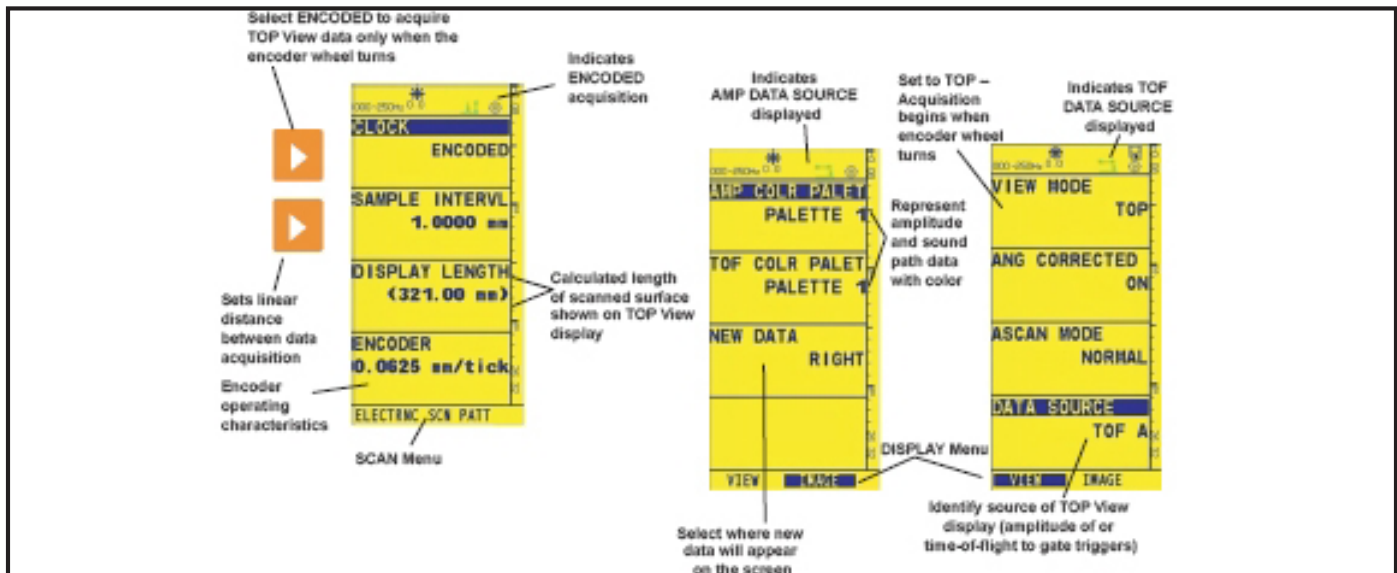
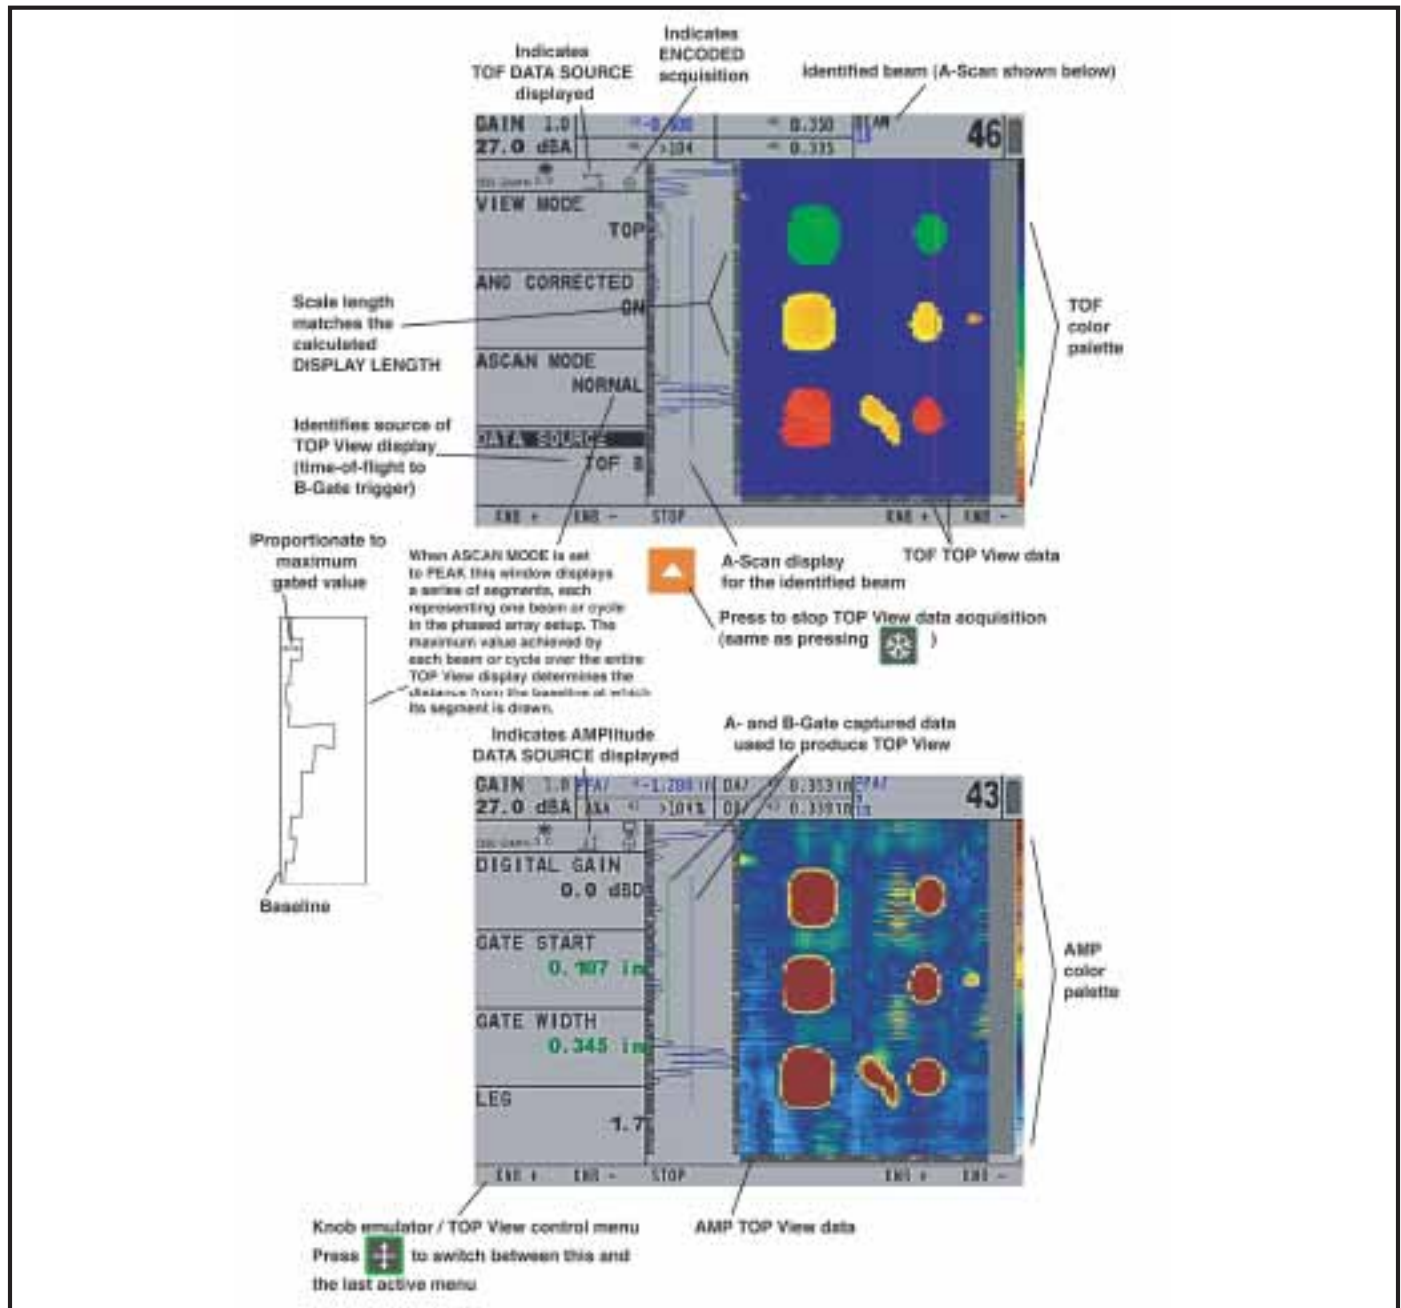

Figure 66: Make these settings for TOP View operation with an encoder. Most TOP View specific settings are accessed from the CLOCK, VIEW, and IMAGE Submenus.
Figure 68: TOP View data, acquired in ENCODED mode, can be viewed as an amplitude or sound-path-distance to trigger (TOF) in A- or B-Gate.
Refer to Figure 66 on page 150 and follow these steps to configure the instrument for TOP View operation in ENCODED mode. The resulting TOP View operation is shown in Figure 68 on page 153.
Whether in TIMED or ENCODED operating mode, the TOP View feature allows the user to acquire data over a period of time while scanning an area of interest. One of four data-viewing options (identified as DATA SOURCES in the VIEW Menu) is displayed as it is acquired. The remaining DATA SOURCES are automatically added to the instrument's data buffer from which they can be retrieved and viewed at any time (during TIMED mode) or when the instrument is STOPped (Section 7.3) in ENCODED mode. While acquiring TOP View data, the KNOB EMULATOR / TOP View Control Menu (identified in Figure 68 on page 153) includes controls that affect the scanning process; however, only the STOP operation is enabled while acquiring data in ENCODED mode.
After the instrument is configured as described in Section 7.1.1 and Section 7.1.3, the TOP View display is *not* immediately active when the VIEW MODE Function (in the VIEW Submenu) is set to TOP. Instead, the instrument acquires data *only* while the encoder’s wheel is turning. This feature limits collection of TOP View data to only those time periods during which the probe is moving over the test piece surface. ENCODED operation is shown in Figure 68 on page 153.
**Note:** *While scanning in ENCODED or TIMED mode, TOP View data is first added to the display screen, which contains data acquired while the scanning the approximate distance listed in the DISPLAY LENGTH Function box. When the screen is full, as it is in Figure 68, the initial data “scrolls” into the instrument’s data buffer. When the buffer is full the scanning process automatically stops, requiring the operator to take action before the data is overwritten. At any time, the TOP View scanning process can be stopped, allowing on-screen and buffered data to be stored. Storing the data in a data set erases the data buffer. Therefore, if analysis and review of acquired data is to be performed directly on the instrument, it should be accomplished before the data set is stored (Section 7.4).*
While operating in TOP View mode, pressing  switches the display’s menu bar from any currently active menu to the Knob Emulator/TOP View Control Menu. This menu, shown in Figure 68 on page 153, allows the screen to be frozen by pressing  below STOP, or (in TIMED mode only) cleared by pressing  below CLEAR. It also allows the display to be cleared and restarted or to resume data collection from the point at which it was stopped. See Section 7.3 to work with a frozen TOP View Display or Section 7.4 to store the acquired TOP View data in a data set.
Refer to Figure 68 on page 153 to see the icons used to indicate whether TOP View is operating in amplitude or TOF mode. These four data sources are also the only data related to the TOP View display that can be accessed from a frozen display (Section 7.3) or stored in a data set (Section 7.4).